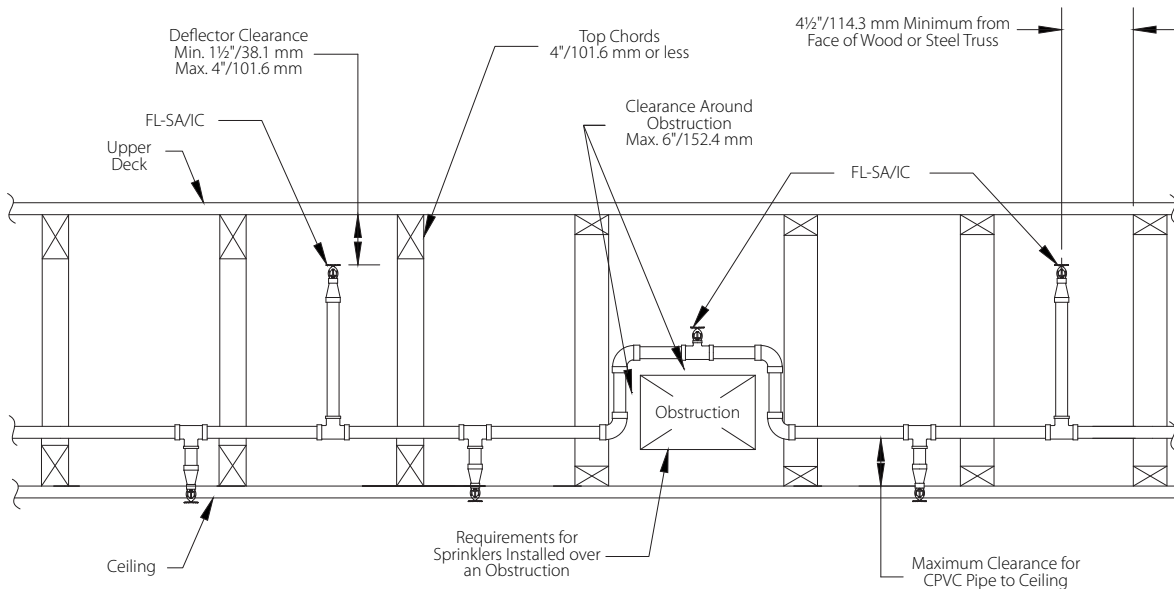
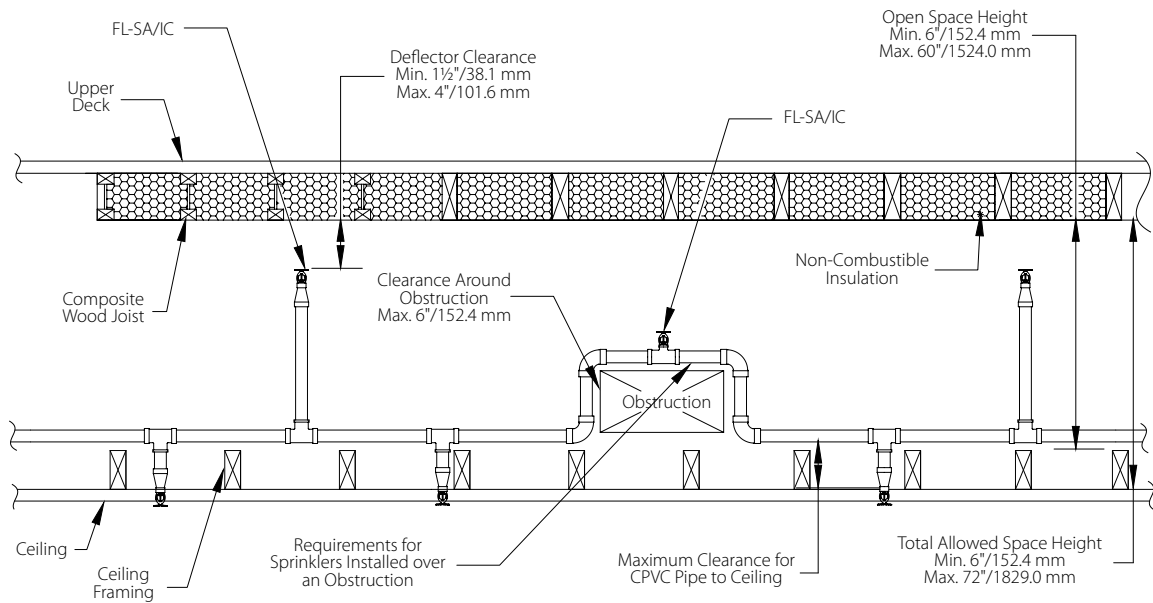

FIGURE 1
FIGURE 2
##### Solid or Composite Wood Joist Construction Where the Upper Deck is Filled with Non-Combustible Insulation (Figure 2)
**Deflector Position:** The clearance from the sprinkler deflector to the bottom of the joist is 1 ½" minimum to 4"/102 mm maximum (refer to Figure 2 Deflector Clearance).
##### Unobstructed Wood Truss and Bar Joist Construction (Figure 1)
**Deflector Position:** The vertical sprinkler-deflector clearance to the bottom of the roof deck is 1 ½"/38.1 mm minimum to 4"/101.6 mm maximum. The lateral sprinkler-deflector clearance from the side of chords or web members is a minimum 4 ½"/114.3 mm to centerline of sprinkler (Refer to Figure 1). The combustible concealed specific application sprinkler must be installed only in the upright position. The sprinkler deflector must be in-stalled parallel with the plane of the roof.
- If 12"/304.8 mm trusses are used in Figure 1, the bottom of the horizontal run must be no greater than 4"/101.6 mm above the ceiling. In Figure 2, if the concealed space height from the bottom of the upper deck joist to the top of the ceiling joist is the minimum 6"/152.4 mm requirement, the bottom of the horizontal run must be no greater than 4"/101.6 mm above the ceiling (refer to Figures 1 and 2, Maximum Clearance for CPVC Pipe to Ceiling).
- When sprinkler system piping must be offset up and over an obstruction, and the bottom of the pipe will be located more than 6"/152.4 mm or 1/3 of the total space above the ceiling, additional combustible concealed specific application sprinklers must be installed to protect the CPVC product (refer to Figures 1 and 2, Maximum Space for CPVC Pipe Over an Obstruction). The sprinkler must be installed directly over the obstruction (refer to Figures 1 and 2, Sprinklers Installed Over an Obstruction).